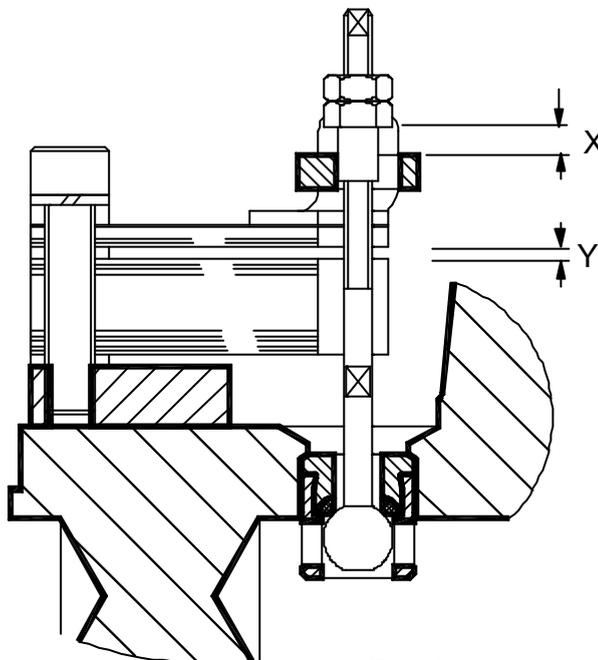

Fig. 11
- k. Clean strainers periodically otherwise they may plug up and prevent the free flow of condensate. For efficient, fast and economical cleaning, install a small valve to the strainer blowdown connection (optional) as in Fig 11.
The discharge temperature of condensate is dependent upon the clearance setting ' X ' fig.11. Increasing the clearance reduces the force exerted on the valve by the bimetal, allowing a closer to saturation discharge temperature. It will also increase capacity, conversely, reducing this clearance increases the bimetal force requiring an increased amount of sub-cooling before discharge can take place. This will hold back condensate utilising its heat before discharge giving efficient energy utilisation. It will also reduce discharge capacity.
The clearance is measured at point ' X ' fig.11 between the top of the rocker plate and the underside of the adjusting nut. The standard factory setting is made at an ambient temperature of 65 Deg F (18 Deg C) and will allow the valve to commence opening at 15 Deg F (8 Deg C) approx. Below saturation, with full discharge, as shown in the individual capacity diagrams for each model, around 40 Deg F (22 Deg C).
The gauge should be a sliding fit between the locknut and rocker plate, and it is important that the clearance 'Y' between the bimetal segments is not reduced. This should always be equal to the spacer in the element fig.11